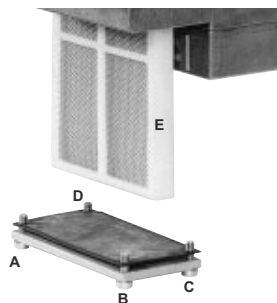

Fig. 30
- 2 Remove screws 1 ÷ 6 (Fig. 30).